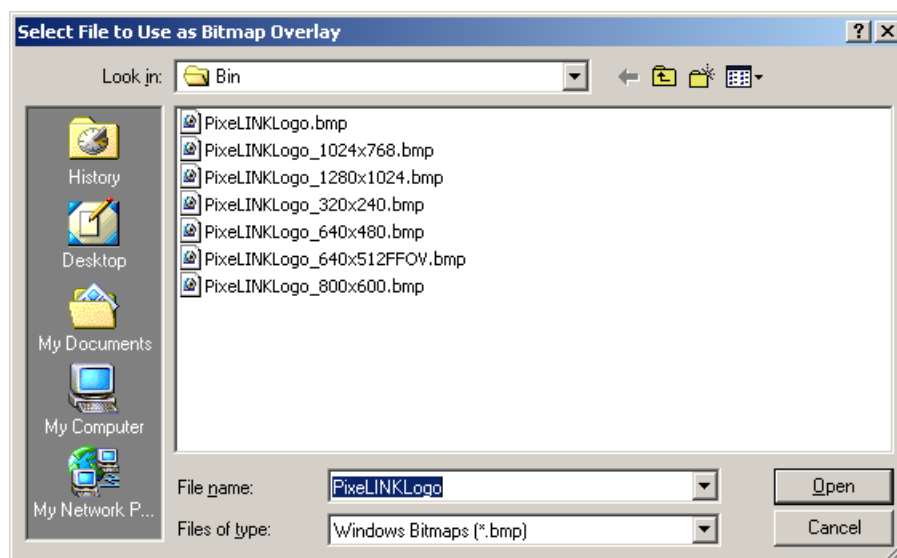

Figure 4.13 Select File to Use as Bitmap Overlay
Specify the name and location of the bitmap overlay file (see Figure 4.13, below).
- An overlay image will not be resized if the size of the preview image is changed. However, if the PixelINK logo supplied with *PixelINK Capture* is used as the overlay image, the application will replace the current overlay image with one that is appropriately sized for the new preview image. User-defined overlay images can be customized for each preview image size by using the same file naming conventions as indicated in Figure 4.13 (below).